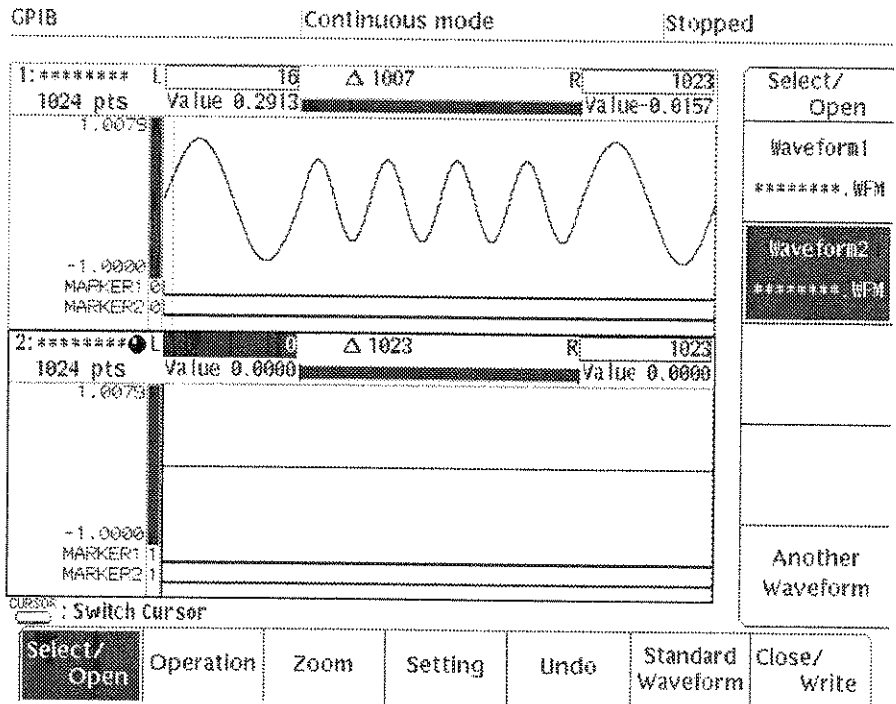

Figure 4A-64: Two Waveform Editing Areas Designated
- Step 3:** Using the general purpose knob, select **New Waveform** from the waveform list and then select **O.K.** A second editing area will appear, as shown in Figure 4A-64.